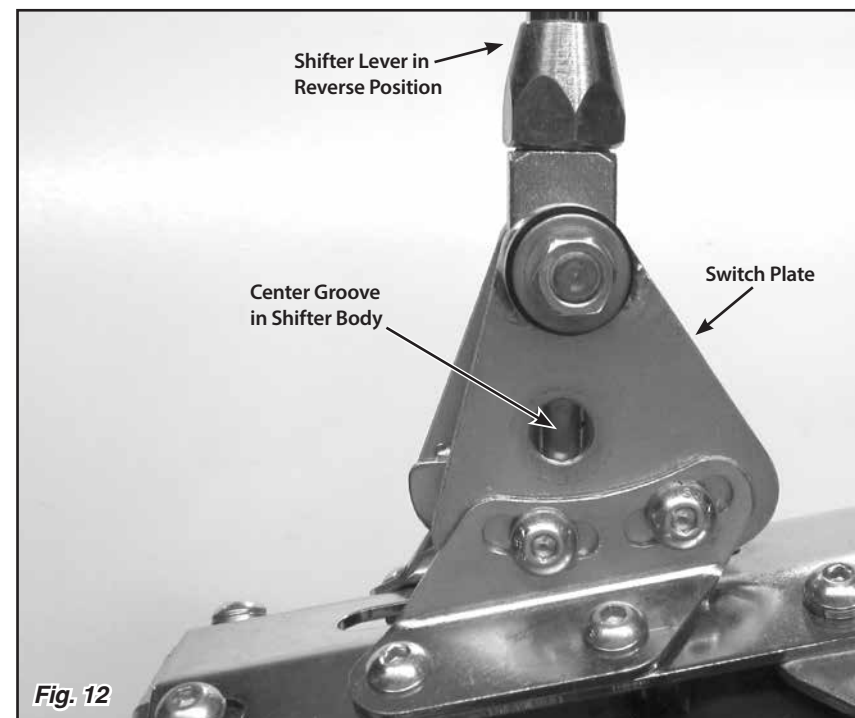

Fig. 12
**Step 19:** Put the shifter lever into the Reverse position. Reposition the switch plate so that the hole in the switch plate lines up with the center groove in the shifter body. **Fig. 12** Screw the provided aluminum adjuster plug into the neutral safety switch opening. Wiggling the switch plate slightly forward and back while you are screwing the aluminum adjuster plug in will help get the shifter body centered on the adjuster plug. **Fig. 13**